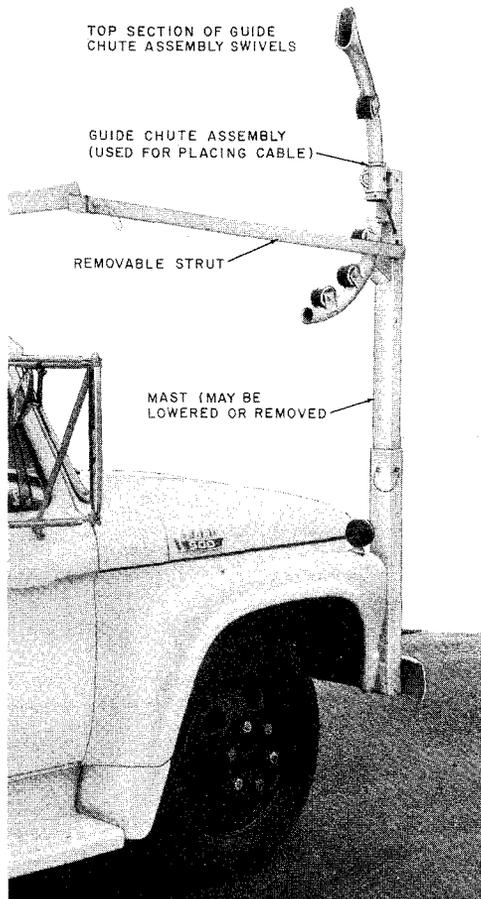

Fig. 8—Guide Chute Assembly (Found Only on Older Units)
2.09 A roller guide assembly mounts on a retractable and removable mast (see Fig. 8 and 9) which attaches to the right front corner of the truck for use in placing wire, cable, or strand. The wire or cable is fed from the cable reel through the roller guide assembly on the right-hand side of the turret and through the guide chute assembly. The lower section of the chute is fixed and the upper section swivels to maintain proper lead to the roller guide at the outboard end of the boom.